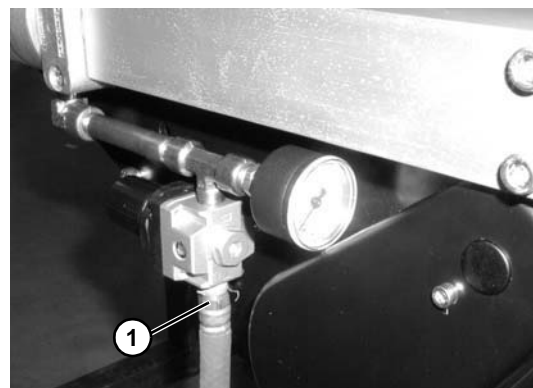

Figure 100
1. Remove air supply and remove hose (Figure 100, item 1) from center drive.